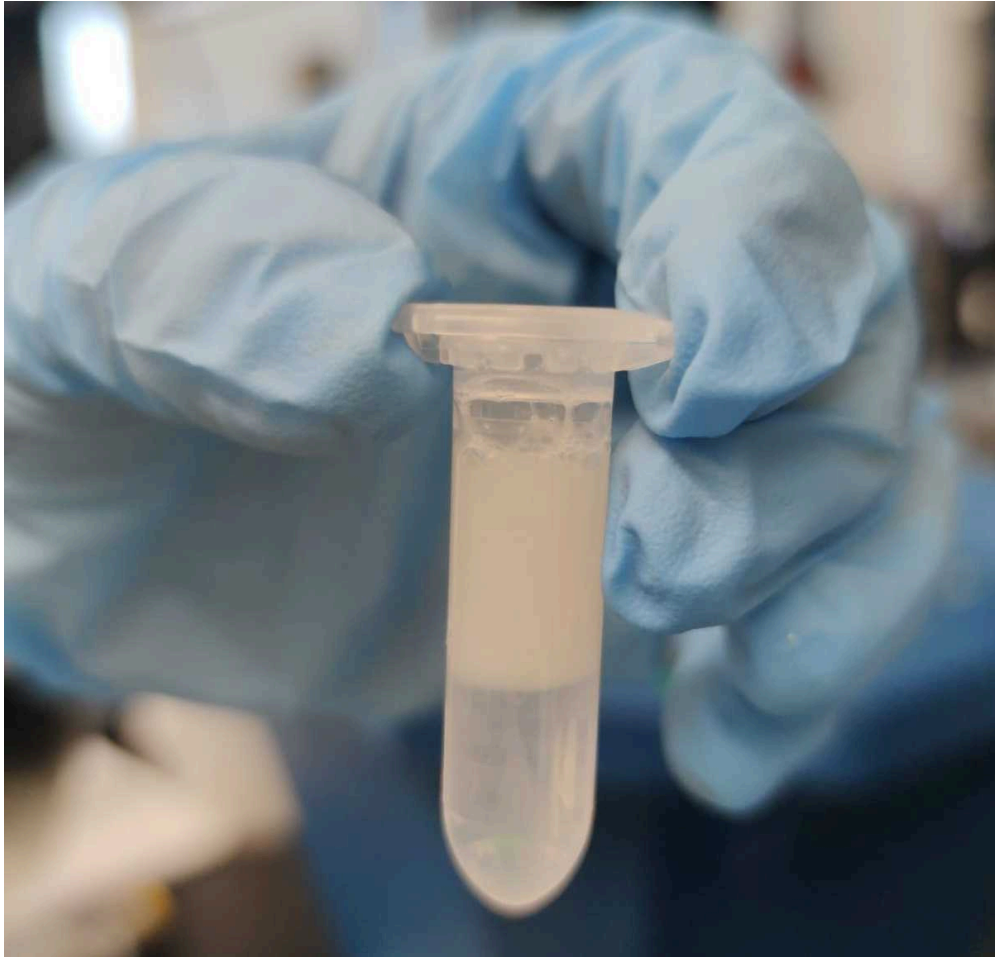

Figure 1. Representative result of overlaying 25% Iodixanol+sample solution over 29% Iodixanol solution.
- 17 Gently and slowly overlay the 29% Iodixanol solution with 900uL of the 25% Iodixanol solution (i.e., the mixed 50% Iodixanol solution + the re-pooled sample solution) by slowly adding it from the top edge of the tube, so that it slowly trickles down into the tube  On ice (see **Figure 1**).